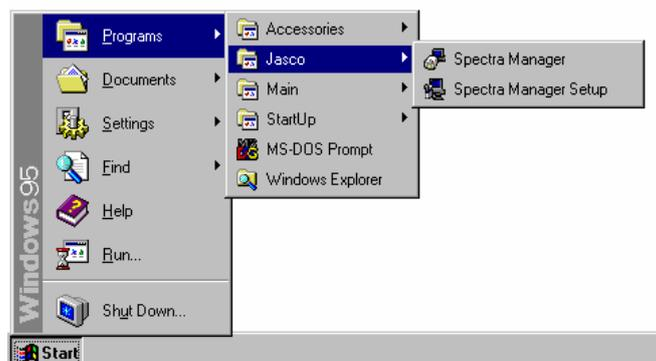
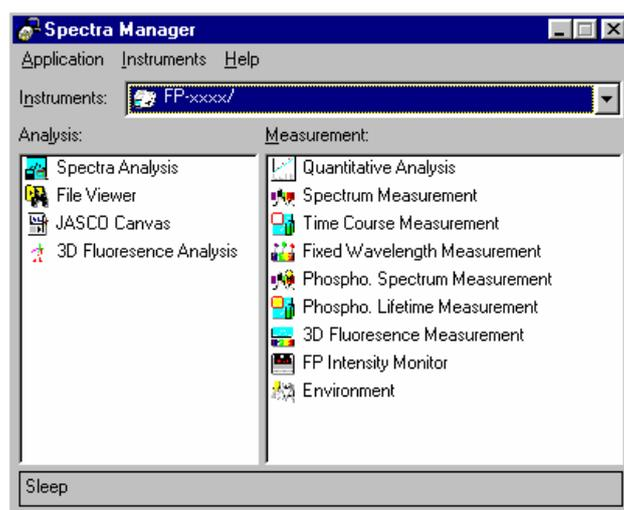

Fig. 2.3 Starting [Spectra Manager] from the Start menu
Fig. 2.4 [Spectra Manager] window
- (1) At Windows start-up, the [Jasco]-[Spectra Manager] is activated. (See Fig. 2.3.) The [Spectra Manager] window, shown in Fig. 2.4, will appear.
Note: The [Spectra Manager] window displays all applications appropriate for use in conjunction with the Spectrofluorometer. The [Spectra Manager] window shown in Fig.2.4 lists the standard applications available for use in conjunction with the Spectrofluorometer. In addition to the standard applications, any optional applications that have been installed in the [Spectra Manger] will also appear in this window. Refer to Section 2.3.